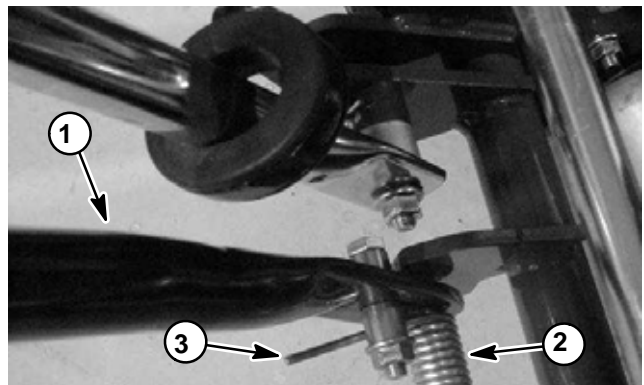

Figure 17
3. Use a nutdriver or small diameter pipe over the end of the torsion spring. Push the torsion spring down and in to release spring tension (Fig. 17).
4. Pivot kickstand up and hold against the frame stops. Use a nutdriver or small diameter pipe over the end of the torsion spring. Push the spring end down and out to install spring (Fig. 17).